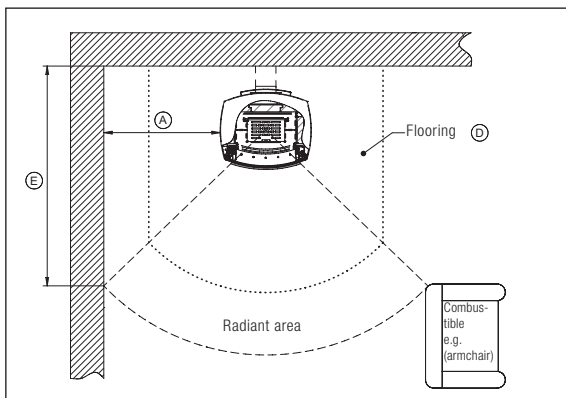

Fig. 17
Minimum side distance (Fig. 17 **(A)**) describes the minimum distance from the stove to the side mounting wall and is valid from the back mounting wall to the beginning of the area of direct radiant heat (E) of the front panel. In stoves with curved front pane or a wide area of direct radiant heat, the minimum wall distance (A) must be adjusted to the extending area of direct radiant heat.